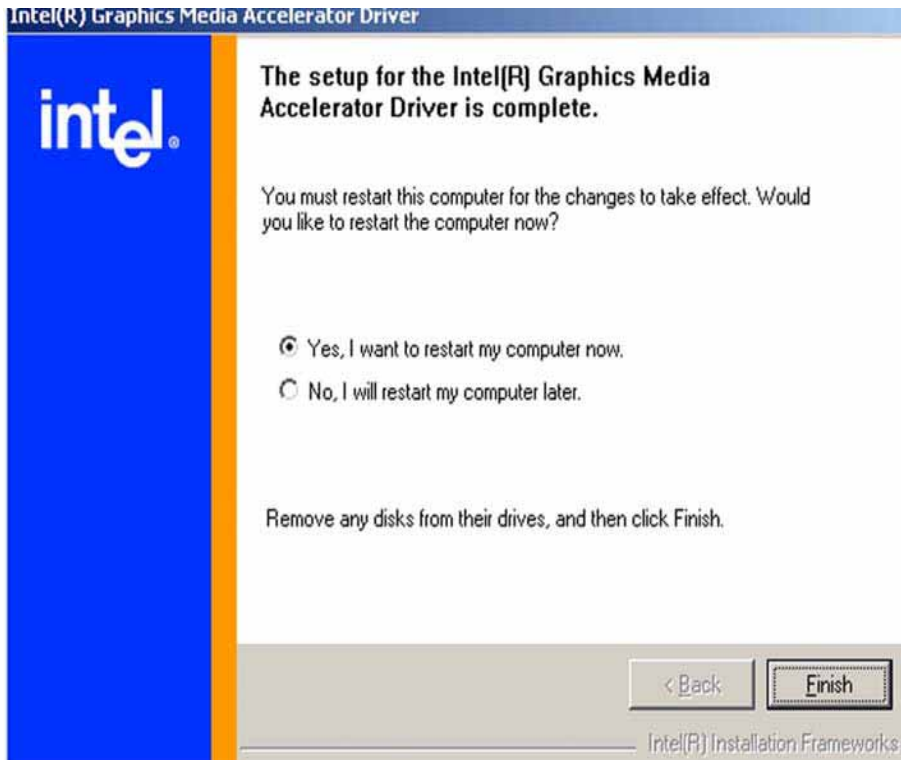

**Figure 6-14: GMA Driver License Agreement**
**Step 3:** To continue installing click “**Next**” and a license agreement shown in **Figure 6-14** appears. Read through the license agreement.
**Step 4:** Accept the terms and conditions stipulated in the license agreement by clicking the “**Yes**” button (**Figure 6-14**). The installation notice shown in **Figure 6-15** appears.